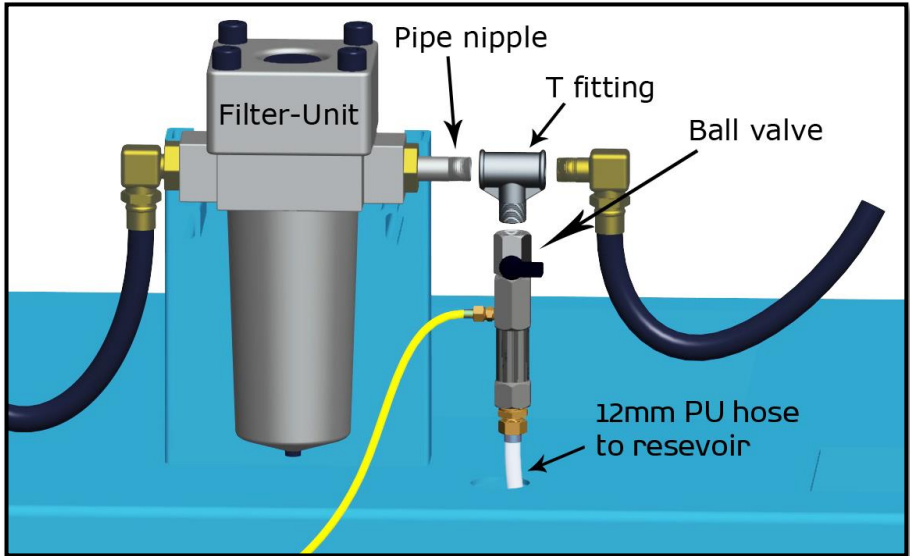
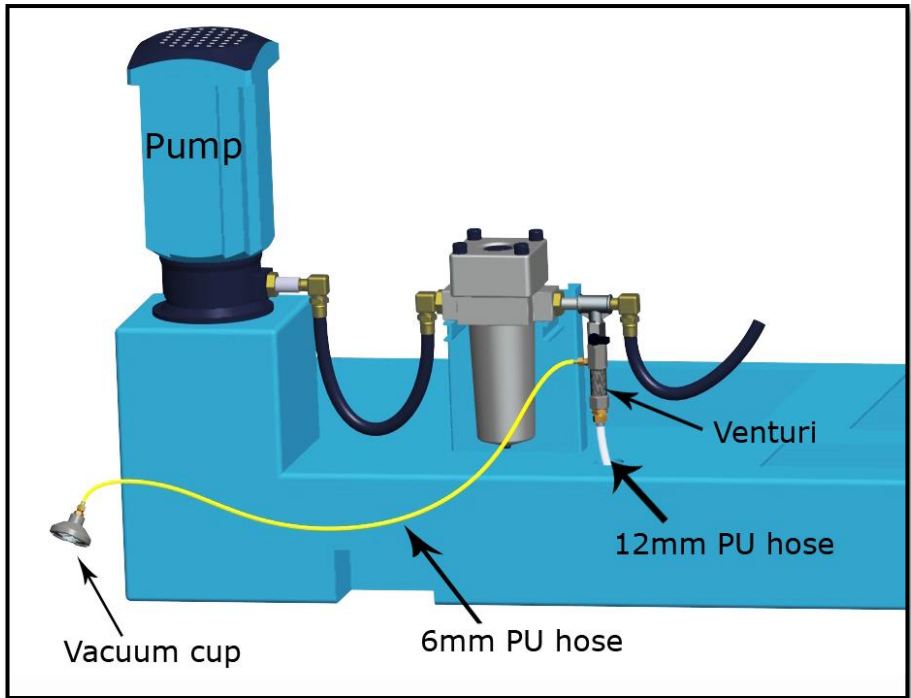

Fig. 3
Fig. 4
NOTE: *On machine tools where the coolant pump is equipped with a filter-unit the Wogaard Coolant Saver™ should be installed **after** the filter-unit (as shown in figure 3 and 4).*
4. Screw on the suitable T fitting or pipe nipple onto the coolant pump or filter-unit, as shown in the example below (Fig 3)
In this particular example (Fig 3), the pipe nipple is screwed into the filter-unit, and the T fitting is then screwed onto the pipe nipple.
5. Screw the venturi-unit and ball valve onto the vertical branch of the T fitting as shown above (Fig 3).
7. Place the vacuum cup on the bottom surface of the chip container. One end of a 6mm PU hose is attached to the vacuum cup. The other must be inserted into the 1/8" push-in connector on the side of the venturi-unit (see fig. 4).
8. Connect the hose supplying cutting fluid to the machine, to the end of the T fitting as shown in Fig. 3 and Fig. 4.